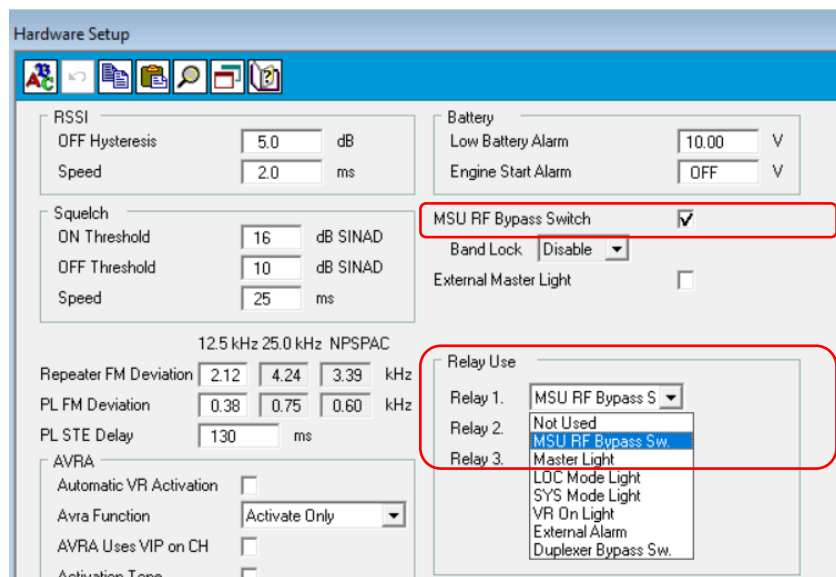

Figure 2: RF Bypass Switch Configuration
To enable the RF bypass switch operation, the following must be configured via Futurecom Repeater Configurator (FRC) in the Hardware Setup menu (Figure 2):
To enable the RF bypass switch operation, the following must be configured via FRC in the Hardware Setup menu (**Figure 2**):
- **Hardware Setup**→ **MSU RF Bypass Switch** = checked (enabled) (See: **Figure 2: RF Bypass Switch Configuration**)
- **Hardware Setup**→ **Relay Use**→ **Relay 1** = MSU RF Bypass Sw. (See: **Figure 2: RF Bypass Switch Configuration**)